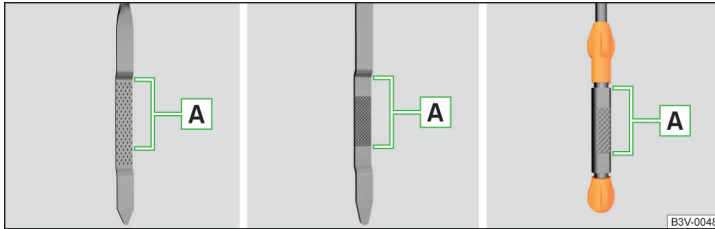

Fig. 169 Principle sketch: Dipstick
Dipstick » Fig. 169
- The oil level must never be above the range **A** » Fig. 169 - risk of damage to the motor as well as the exhaust system.